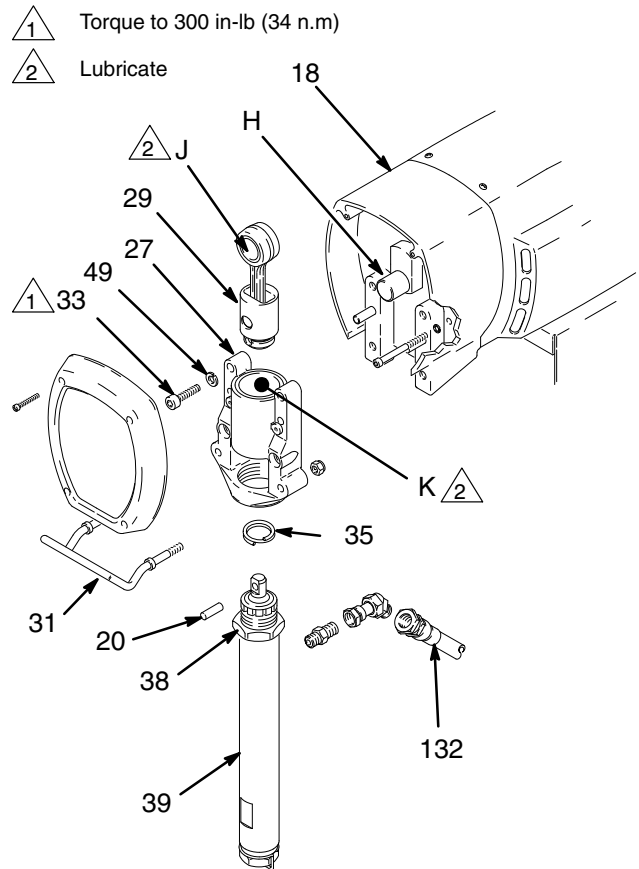

Fig 18
**NOTE:** Stop the sprayer at the bottom of its stroke to get the crank (H) in its lowest position. To lower the crank manually, rotate the blades of the motor fan with a screwdriver.
2. Remove front cover (31). Remove bearing housing screws (33). See Fig. 18 and part list.
3. Tap lower rear of bearing housing (27) with plastic mallet to loosen it from drive housing (18). Pull bearing housing and connecting rod (29) straight off drive housing.
4. Inspect crank (H) for excessive wear and replace parts as needed.
5. Evenly lubricate inside of bronze bearing (K) with motor oil. Liberally pack roller bearing (J) with bearing grease.
6. Assemble connecting rod (29) and bearing housing (27).
8. Align connecting rod with crank (H) and align locating pins in drive housing with holes in bearing housing (27). Push bearing housing onto drive housing or tap into place with plastic mallet.
9. Install bearing housing screws (33). Torque evenly to 300 in-lb (34 N.m).